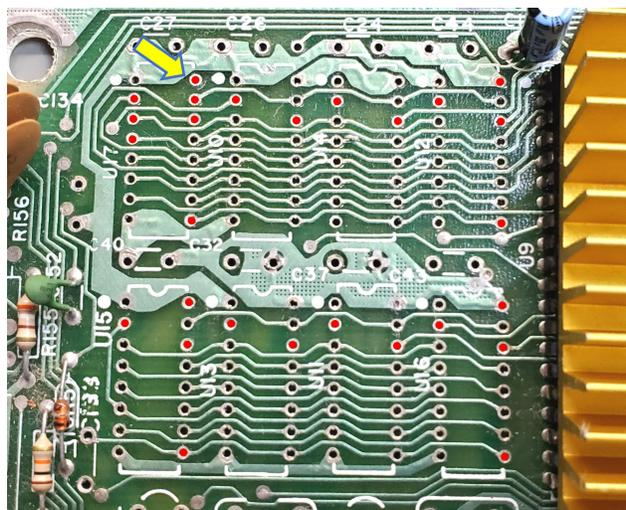
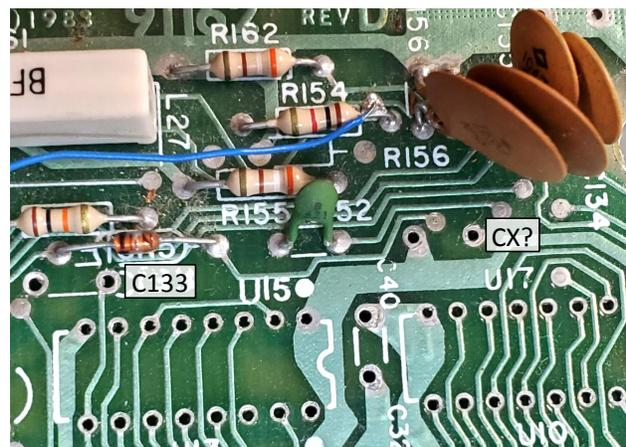

Figure 2
Figure 3
- Decoupling capacitors: C27, C26, C24, C44, C40, C32, C37, C43. (See **Figure 2**.) C133 and CX? (See **Figure 3**.)
- DRAM: U17, U10, U14, U12, U15, U13, U11, and U16 (See **Figure 2**.)
Inspect desoldering work performed and repair any visual issues found or take notes at this point to address later if bodge/repair wires are need to be added after the new PAL DRAM to SRAM Converter board is installed. Verify all solder is fully removed from solder pads shown in red in **Figure 2** to ensure room for pins later. Note: Redundant parallel signals are not used by the new SRAM Converter mod PCB and may not even have to be addressed if the break is after where the signal is being tapped for the new PCB. See troubleshooting section for diagnosing broken traces if needed.
SRAM Converter mod PCB by aligning GND1 pin (above /CAS pin on the top side of the PCB) into the upper right Pin 16 of U17 solder pad hole as the reference of properly aligning the PCB. See arrow in **Figure 2**. Carefully and slowly lower the PCB in place. Do not to rush this process. It may be necessary to wiggle the PCB slightly if any pins are ever so slightly off as you work them